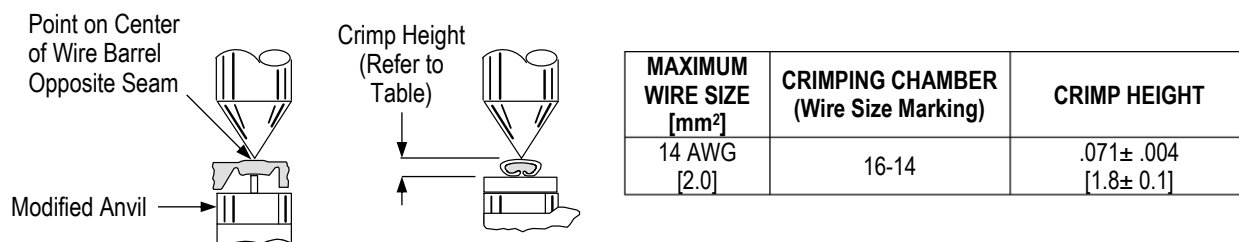

Figure 4
1. Refer to Figure 4, and select a maximum size wire.
3. Using a crimp height micrometer, measure the crimp height as shown in Figure 4. If the crimp height conforms, the tool is considered dimensionally correct.
- Revised Figure 1 and Figure 4 to reflect NOTE change above